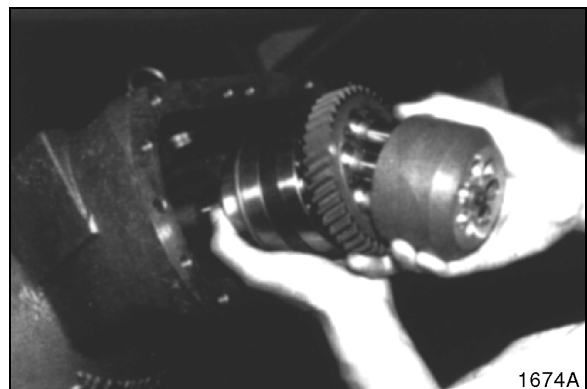

Figure 80
3. Install drive side rotary group. See Figure 80.